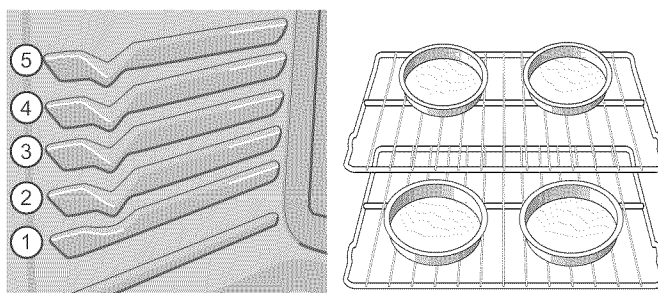

Figure 7: Rack positions and pan spacing for best results
For best results when baking cakes using two oven racks, place racks in positions 2 and 4 (Figure 7).
- When baking using two oven racks, position cookware as shown in Figure 7. Allow at least 2 inches (5 cm) of space between cookware for proper air circulation.